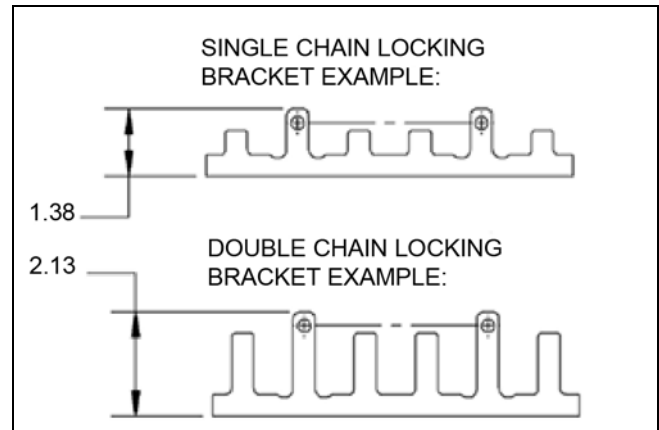

Figure 24.
3. Compare removed bracket with new double lock brackets to identify correct new part. Refer to Figure 24 for example.